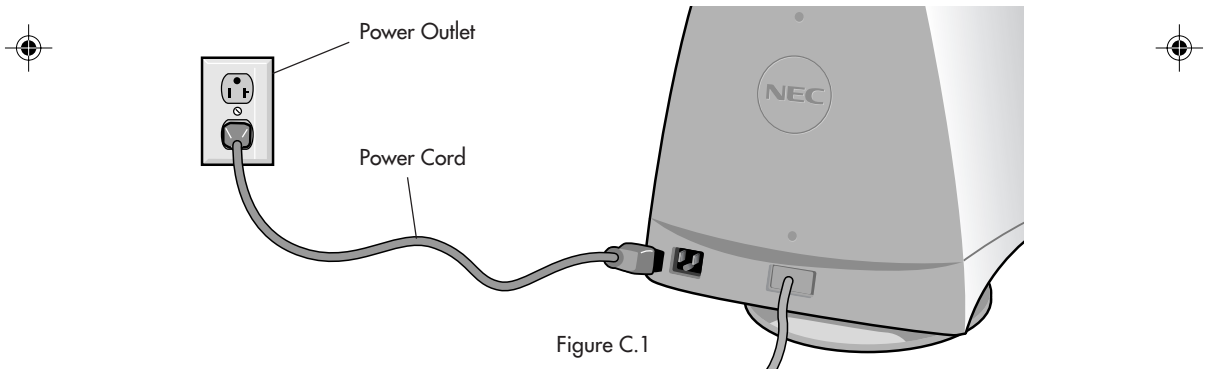

Figure C.1
**NOTE:** To obtain the Macintosh cable adapter, call NEC-Mitsubishi Electronics Display at (800) 820-1230.
4. Connect one end of the power cord to the AccuSync monitor and the other end to the power outlet (**Figure C.1**).